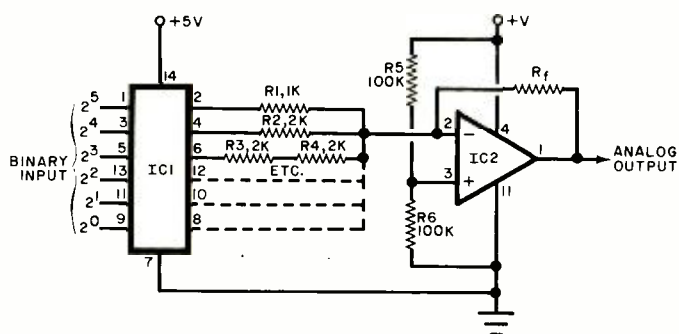

Fig. 6. Digital-to-analog converter circuit.
Recognizing that many of today's hobbyists are working with digital projects, reader Robert L. Schuman (R.R. #2, Winthrop, IA 50682) has suggested the circuit given in Fig. 6 as an inexpensive solution for those requiring a simple digital-to-analog (D/A) converter. Using only two IC's, a hex inverter ($IC1$) and an operational amplifier ($IC2$), the circuit accepts digital binary input pulses and converts these to an equivalent analog signal. In operation, the actual conversion process takes place in a weighted resistive divider network ($R1$, $R2$, $R3$, $R4$, etc.) connected to the hex inverter's output terminals and which, in turn, becomes part of the op amp's inverting input feedback/bias circuit. The output resistance for each binary digit from 2^3 (32) to 2^0 (1) is doubled in value so that the summed resistive output connected to the op amp is inversely proportional to the input binary signal, thereby insuring that the op amp's output is directly proportional to the original binary number.